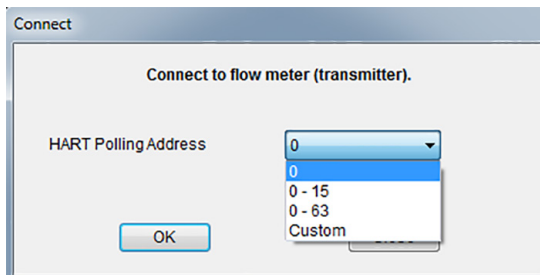

Figure 1.4—Connect dialog
4. Choose **File>Connect**. The *Connect* dialog will appear (Figure 1.4), prompting the selection of a HART polling address. EZ-Link’s default HART polling address is “0.” Click **OK** to accept the default setting.